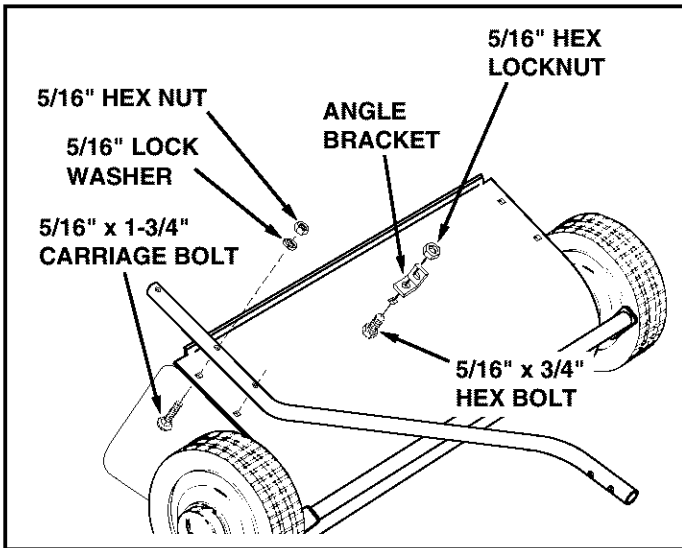

FIGURE 1
- Assemble the angle bracket to the sweeper housing using a 5/16" x 3/4" hex bolt and a 5/16" hex lock nut. Make sure the bracket is turned as shown and aligned straight with the housing and then **tighten**. See figure 1.
- Assemble the R.H. hitch tube to the sweeper housing using two 5/16" x 1-3/4" carriage bolts, 5/16" lock washers and 5/16" hex nuts. **Do not tighten yet**. Repeat for the L.H. hitch tube. See figure 1.